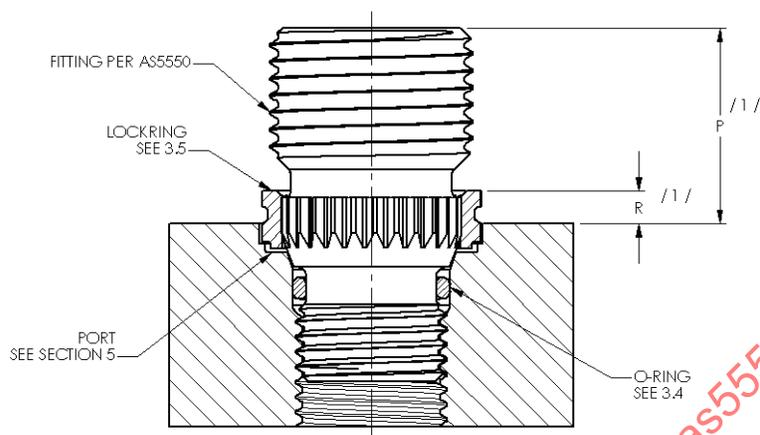

FIGURE 1 - Installed Fitting Assembly
- 3.2 Fitting assembly per AS5550 installed per this document into ports prepared per Section 5 shall have stand-off dimensions "P" and "R" in Figure 1 and Table 1A.